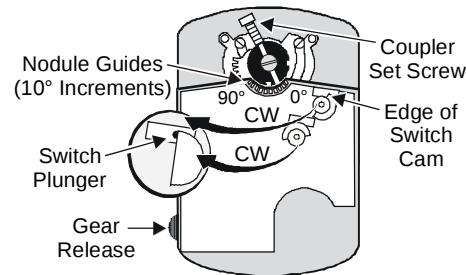

Figure 12: Switch Cam Angle Settings
2. Rotate Switch Cam S1 CW, and align the edge of the switch cam with the switch plunger until the plunger rises. (See Figure 12.)
2. Rotate Switch Cam S2 CW, and align the edge of the switch cam with the switch plunger until the plunger rises. (See Figure 12.)